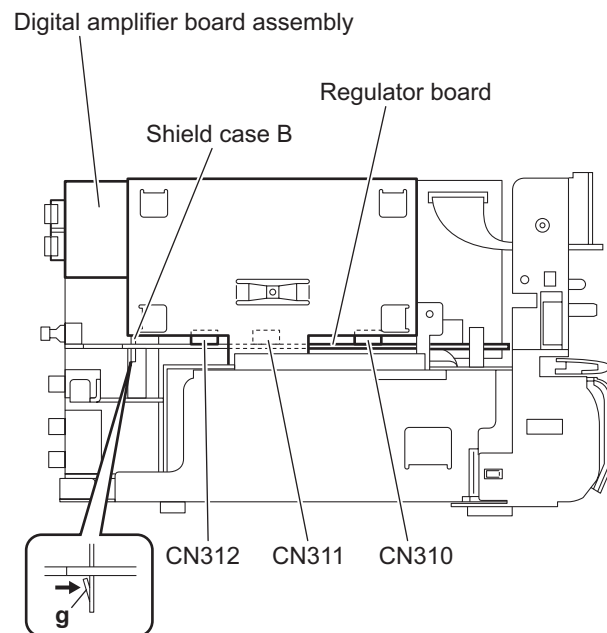

Fig.16
- (2) From the left side of the main body, disconnect the connectors (**CN310**, **CN311**, **CN312**) on the digital amplifier board assembly from the regulator board. (See Fig.16.)
- (3) Release the joint **g** of the shield case B in the direction of the arrow and take out the digital amplifier board assembly from the main body. (See Fig.16.)